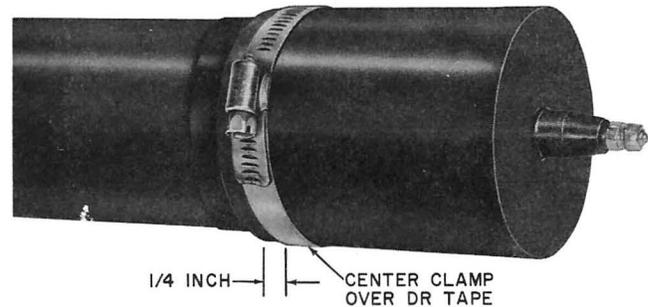

Fig. 4—C Cable Cap Installed
- (3) Locate the clamp 1/4 inch from the open end of the cap as shown in Fig. 4.
- (4) Place the cap over the taped cable and tighten the clamp firmly to ensure a good seal.
- (5) If the end is likely to be submerged, use a valve-equipped cap and flash test the cap with the solution appropriate for the type of sheath involved.